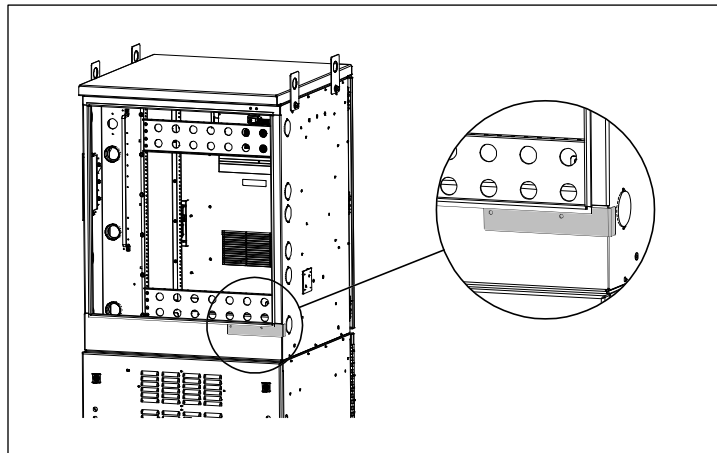

Figure 6 Place Drilling Template
2. Place the door ramp drilling template against the CUBE, underneath the lower right corner of the door frame so that the template flange fits snugly around the corner of the CUBE (Figure 6, drilling template is shaded in gray).